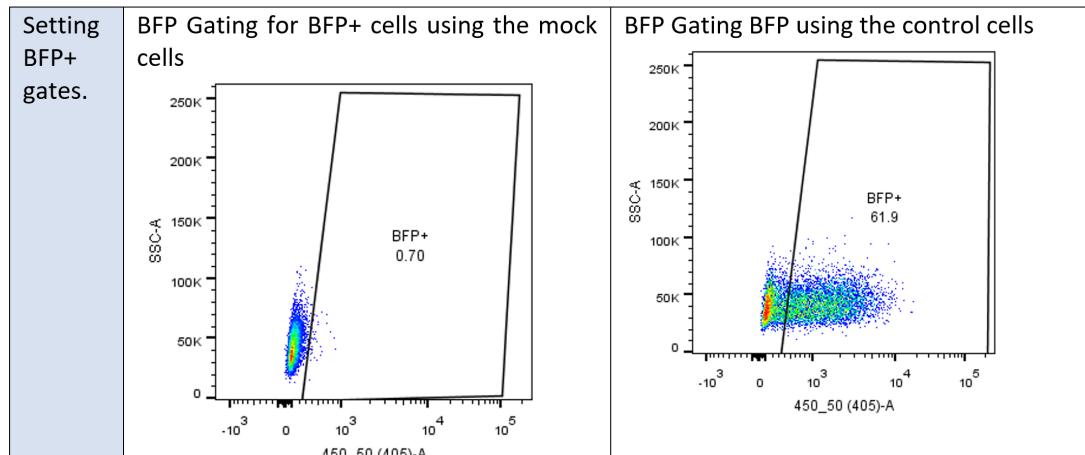

Figure 3. Setting BFP+ gates for the mock and control cells
- 16.3 Change the plot axis to show BFP vs SSC-A and draw a BFP+ gate based on the negative cells, see Figure 3, left panel.
- 17 Copy these gates across to the control sample and check that it identifies BFP+ cells as shown in Figure 3, right panel.